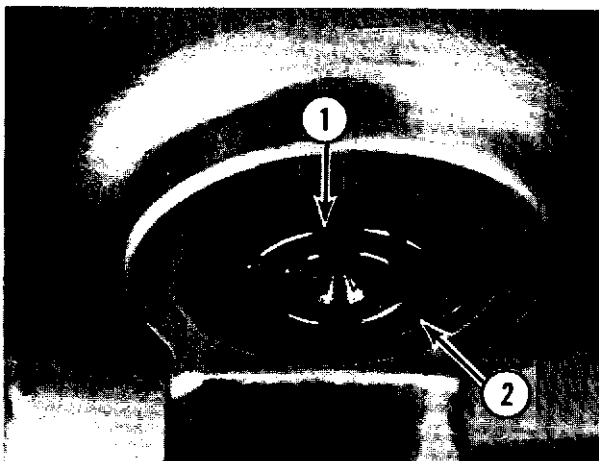
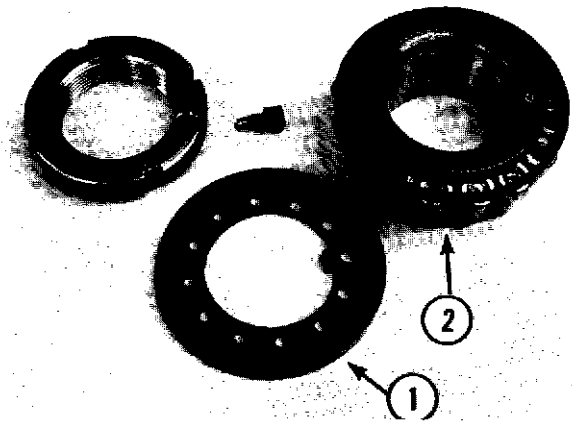

Fig. 10-4
Fig. 10-5
- I. Remove the special cap screw (1, Fig. 10-4).
- J. Remove the locknut (2, Fig. 10-4), tongue washer (1, Fig. 10-5) and the lower roller bearing (2, Fig. 10-5).